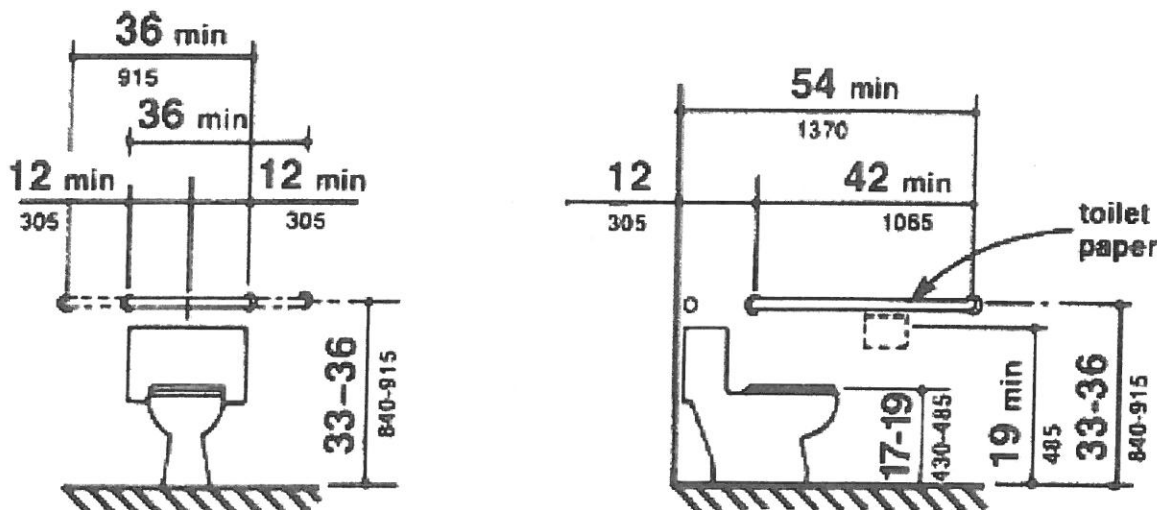

Figure 29
4.16.6 Dispensers. Toilet paper dispensers shall be installed within reach, as shown in Fig. 29(b). Dispensers that control delivery, or that do not permit continuous paper flow, shall not be used.
Fig. 29(a) Back Wall. A 36 inch (915 mm) minimum length grab bar is required behind the water closet mounted at a height between 33 and 36 inches (840-915 mm). The grab bar must extend a minimum of 12 inches (305) beyond the center of the water closet toward the side wall and a minimum of 24 inches (610 mm) toward the open side for either a left or right side approach.